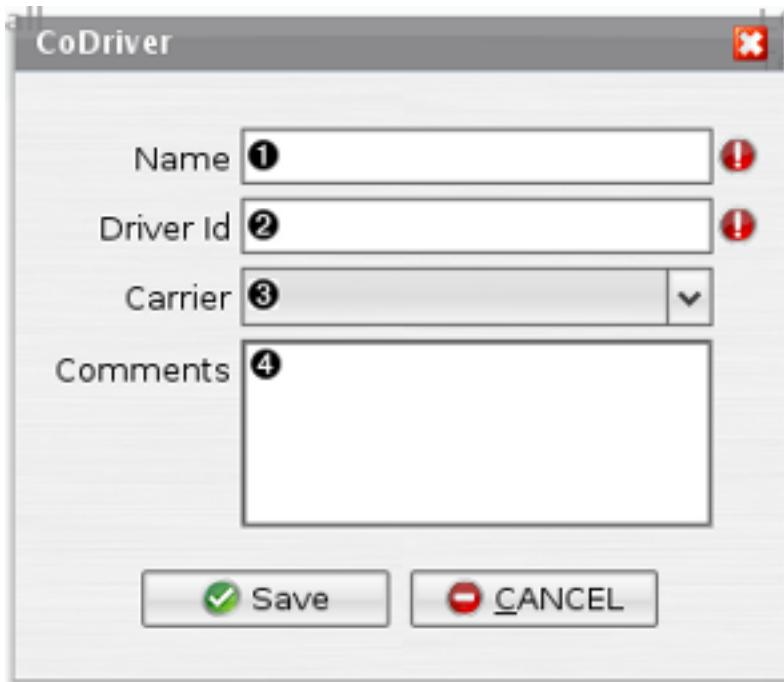

Figure 5.11. CoDriver Dialog
3. Click the New button and wait for the codriver dialog to appear see Figure 5.11, "CoDriver Dialog" for a description of each of the fields.
You can also create a new co-drivers by clicking the "New CoDriver" item in the CoDriver box list, which will display the Figure 5.11, "CoDriver Dialog".